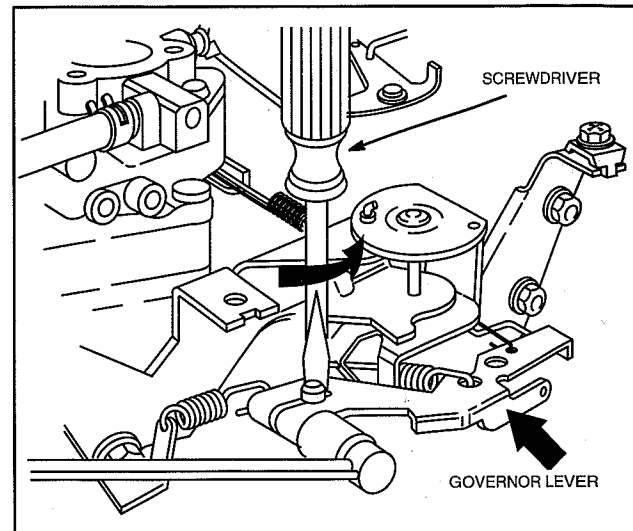

Fig. 128 – Static Governor Adjustment
2. Rotate governor shaft counter-clockwise as far it will go, Fig. 128.